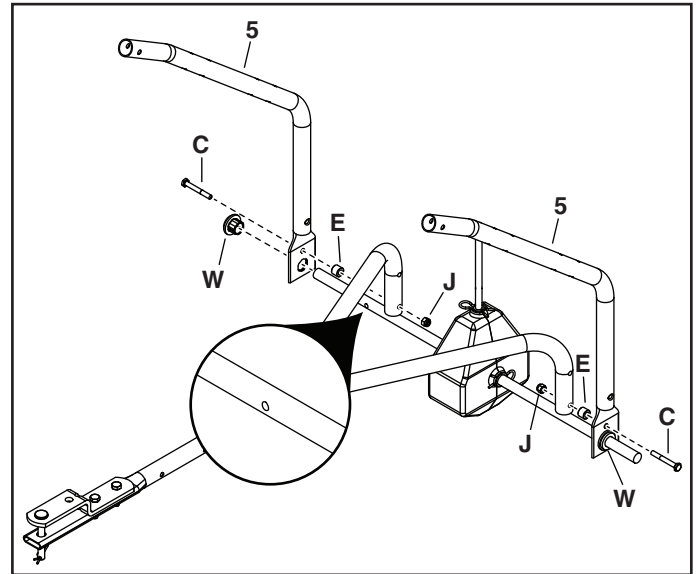

FIGURE 3
STEP 3: (SEE FIGURE 3)
- Insert the hex bushings (W) into the ends of the hopper support tubes (5).
- Assemble the axle/gearbox assembly and hopper support tubes (5) to the hitch support tubes as shown, using two 1/4" x 2" hex bolts (C), spacers (E), and 1/4" nylock nuts (J). **Do not tighten completely.**